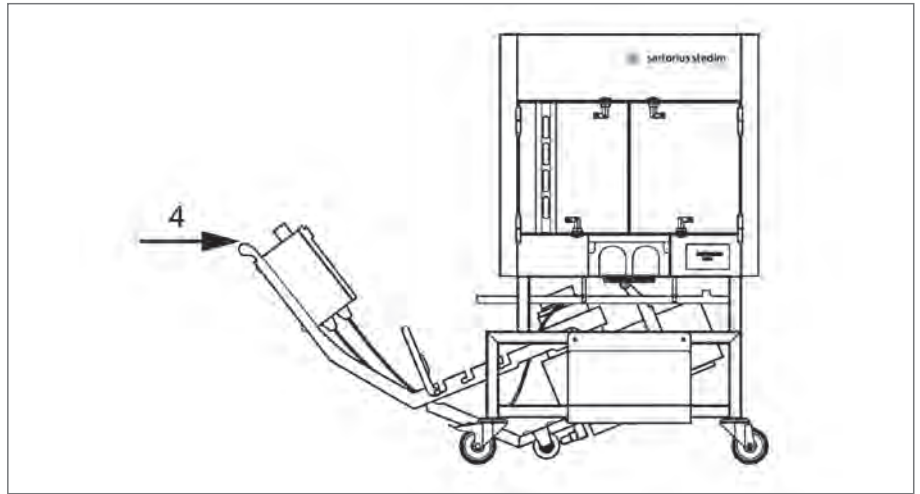

Figure 63
3. Roll the bearings of the LevMixer® drive unit along the rails all the way until the dead end of the rails (see Fig. 63 | 4).